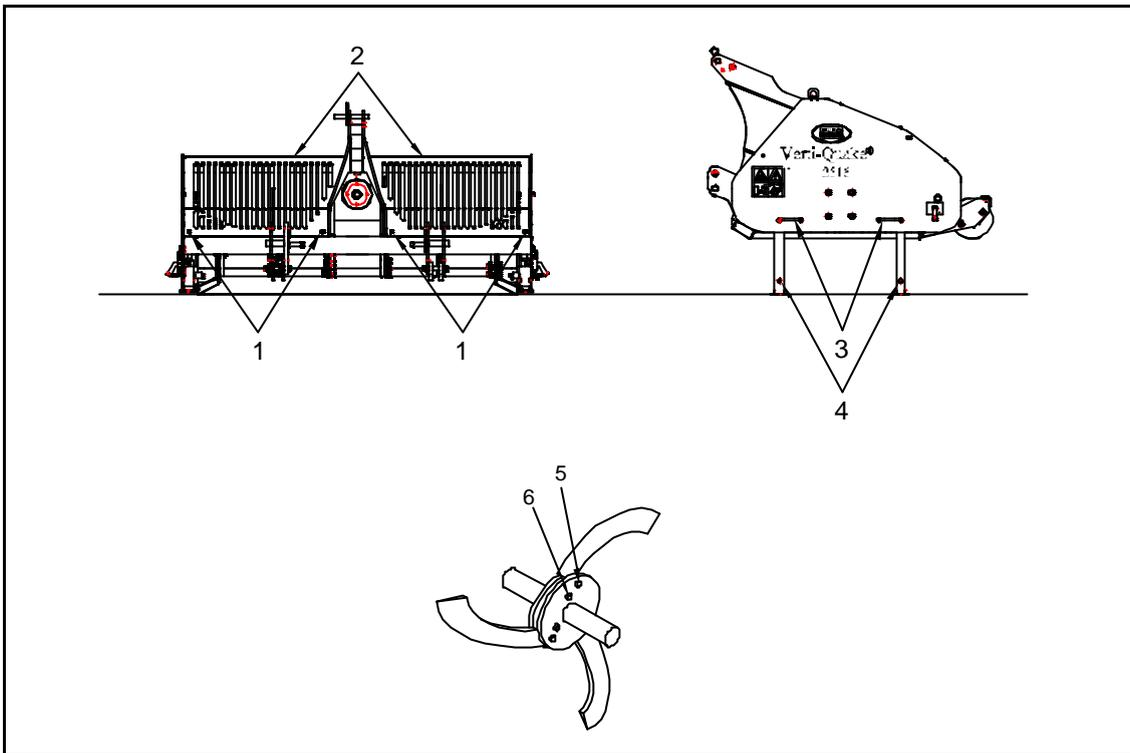

Fig. 7
1. Loosen the bolts 1. Remove the access hatches 2. (fig. 7)
12. Mount the access hatches 2 and secure these by tightening bolts 1. (fig. 7)